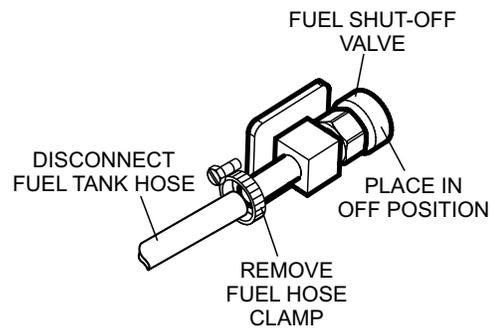

Figure 4. Fuel Shut-Off Valve (OFF)
1. Place the fuel shut-off valve (Figure 4), located at the base of the fuel tank in the **OFF** position.